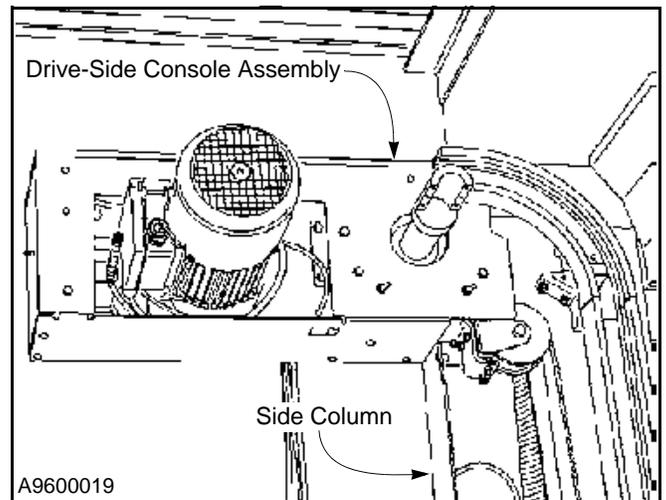
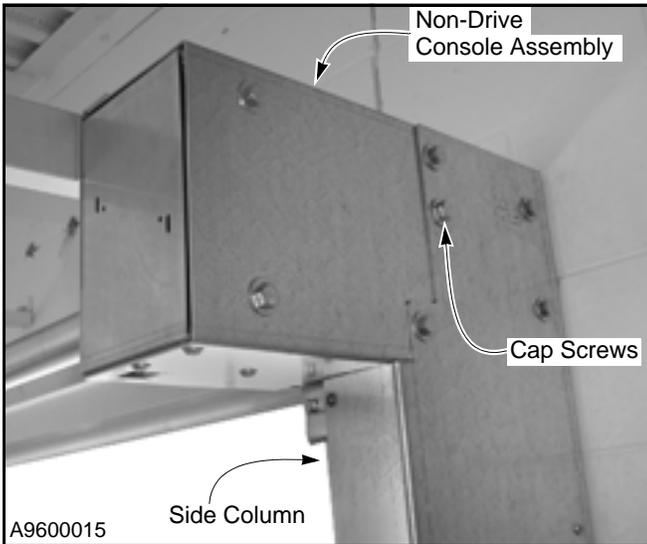

Figure 23
Figure 24
- Raise and position the console assembly above each side column so that it is parallel to the wall and level with each side column. Align the console assembly with the side column and install the five cap screws that were removed in step 3. (See Figure 23 and Figure 24.)